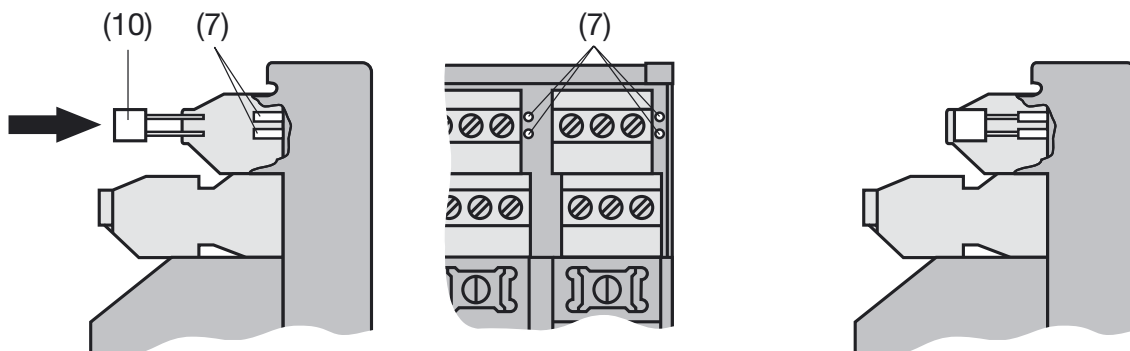

Fig. 6. Plug the compensating resistor Ni 100 (10) into the connector (7) on the backplane.
Hold the Ni 100 (10) with tweezers of appropriate size and insert the connection wires into the socket (7) (Fig. 6).
² Plug the Ni 100 acc. to Fig. 6 of this operating manual.